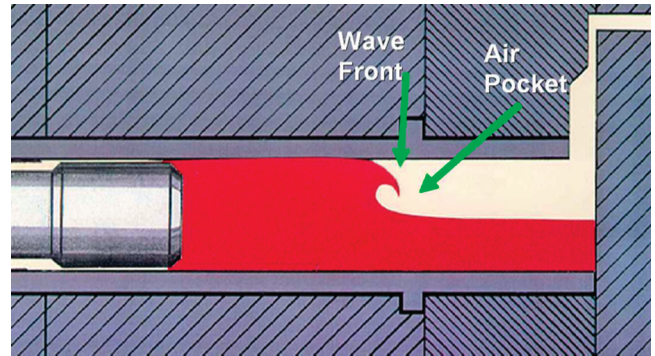

Figure 3 – Performing a slow shot that is too fast creates a forward facing wave and trapping air.
- Figure 3 shows that when the slow shot speed is too high. A forward acting wave is created with similar results.